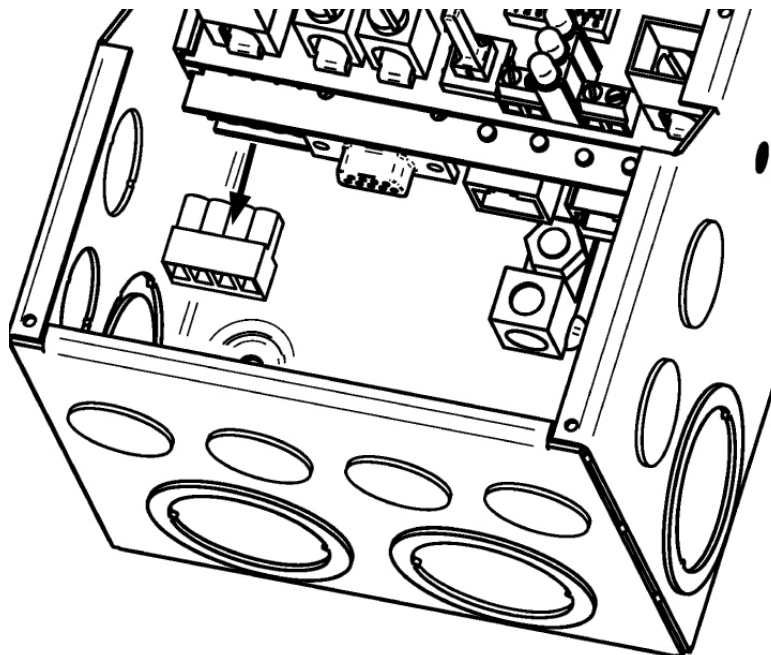

Figure 3-6. Removing the RS-485 socket connector
The four (4) position EIA-485 connector on the TriStar MPPT must be removed to access the terminal screws. Remove the socket connector by firmly grasping the connector body and pulling away from the circuit board as shown in figure 3-6.